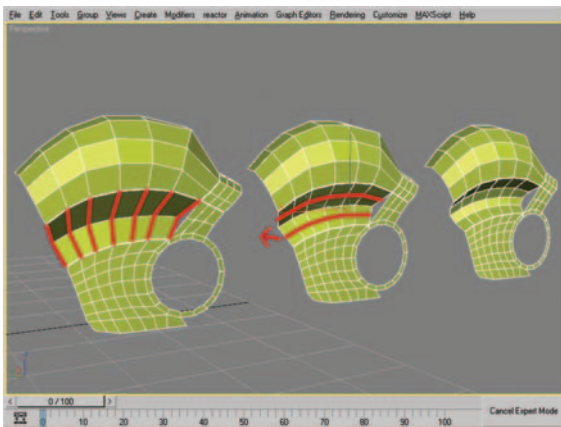

Figure 8.35 Two edge rings selected, two new rows of edges after using Connect, and resulting mesh after moving the two rows of edges.
37. Select the edge rings shown in Figure 8.35 (left) and use Connect to create two new rows of edges (Figure 8.35, center).
38. With the Move tool selected, move the two rows of edges (positive X-axis) to create a curved shape as seen in Figure 8.35 (right).